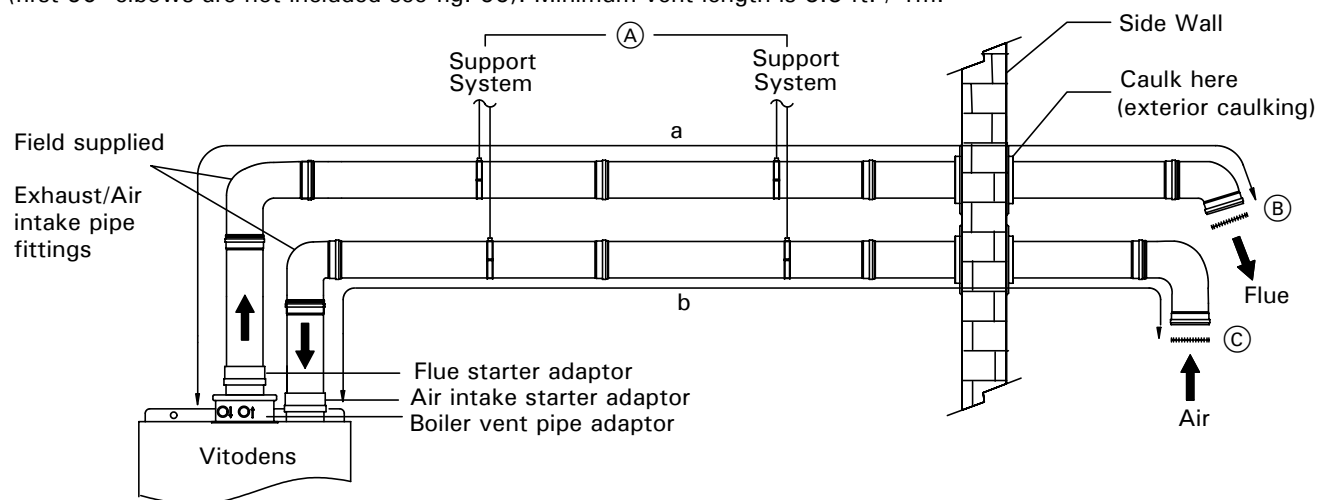

Fig. 49 Vitodens 100-W and 200-W WB2B 9-19, 9-26, 9-35
The total equivalent length specified for a two pipe system is the total **combined** length of the exhaust vent and air intake pipe system. Do not exceed these maximum lengths. See table 39 and fig. 49 and 50 for reference.
*² See figure 49 and 50
The total equivalent length specified for a two pipe system is the total **combined** length of the exhaust vent and air intake pipe system. Do not exceed these maximum lengths. See table 40., as well as fig. 49 and 50, for reference.
^{*2} See figure 49 and 50
The total equivalent length specified for a two pipe system is the total **combined** length of the exhaust vent and air intake pipe system. Do not exceed these maximum lengths. See table 41, as well as fig 49 and 50 for reference.